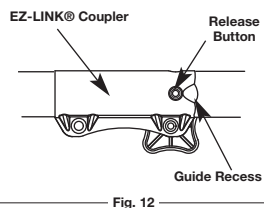

Fig. 12
NOTE: Aligning the release button with the guide recess will help installation (Fig. 12).
2. Press and hold the release button (Fig. 12).